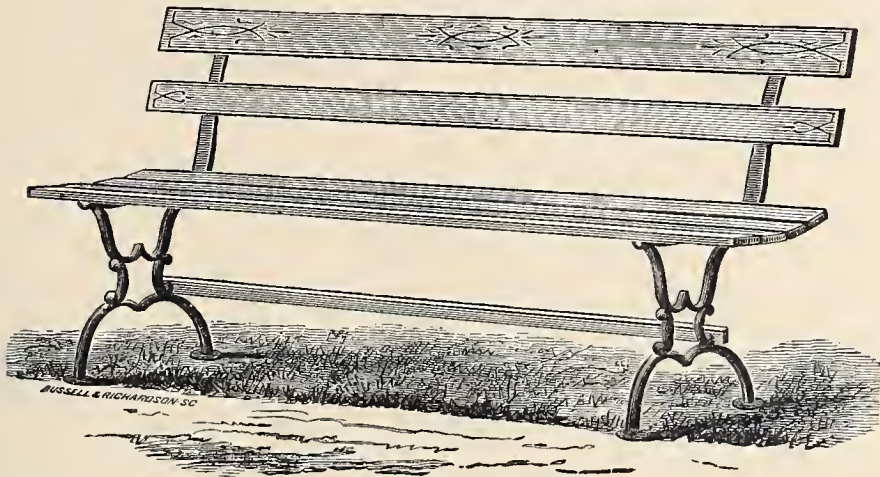

Fig. 477. — Lawn Seat.
*The Lawn-Seat*, represented by *Fig. 477*, is made of all sizes, from four and a half to six feet in length ; and large numbers are sold.